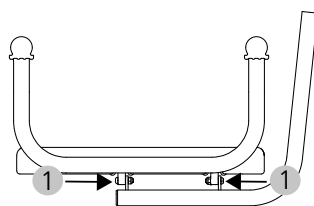

Abb. 3
2. For mounting the backrest, screw the backrest tubes to the receptacles on the underside of the product (Fig. 3, 1). Use the accompanying screw set for this purpose.